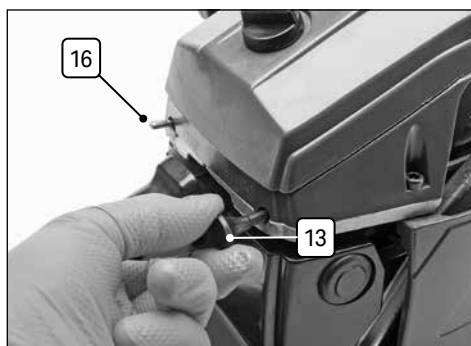

Fig. 14
- Move the 'STOP' switch (16) to the 'ON' position and pull out the choke lever (13) to the midway position to engage.
- Pull the recoil starter cord (6) to start the engine.
7.3 Stopping the Engine (Fig.14)